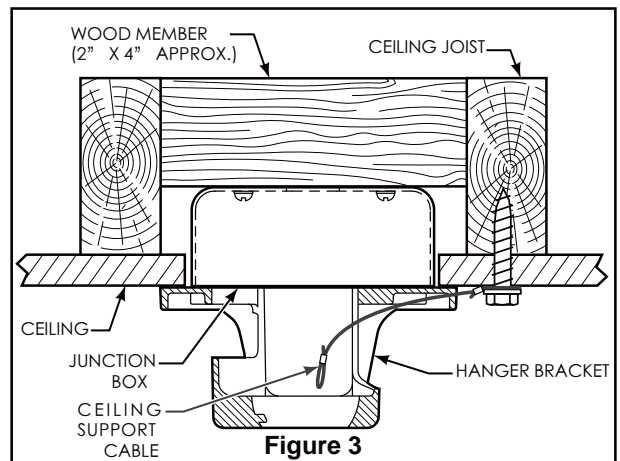

Figure 3
**NOTE:** Ceiling support cable cannot be secured to junction box only, it must be directly secured to ceiling joist or structural member using the  $\frac{3}{8}$ " x 2" lag bolt and flat washer. (Figure 3)